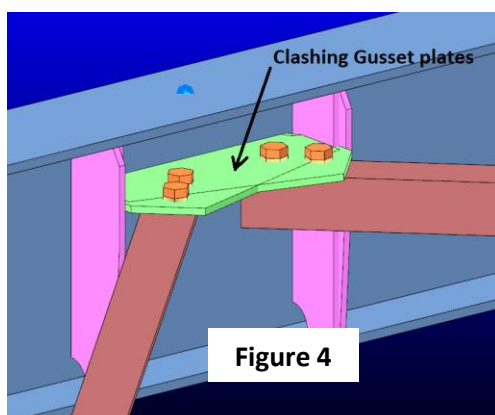

Figure 4
- ❖ For example (see Figure 4), two horizontal braces will connect to the same point separately, creating a clash between the gusset plates, rather than using a single common gusset plate.